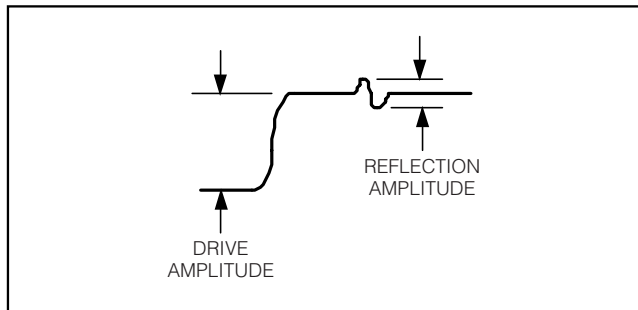

Figure 1. TDR Return Loss
**Note 6:** Output return loss by time domain reflectometry (%) =  $100 \times (\text{reflection amplitude} / \text{drive amplitude})$ . See Figure 1.